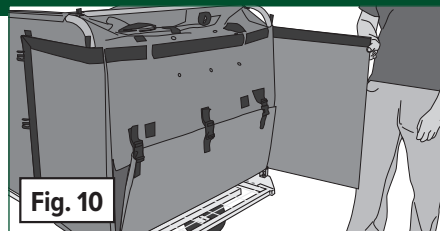

Fig. 10
1. **(Fig. 10)** Wrap the 2 shorter straps around the hose and secure both buckles. Keep the straps slightly loose so you can slide the Hammock into the best position.
1. **(Fig. 10)** Open the three outer buckles on the rear doors. Pin the two doors back onto the Velcro® on the sides of the collector bag.